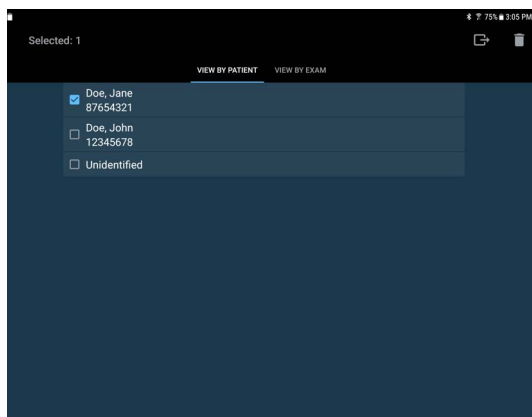

FIGURE 44. Deleting Patients
2. Tap and hold the exam or patient. The exam or patient will be checked, and check boxes appear next to other patients and exams (see FIGURE 44. Deleting Patients).